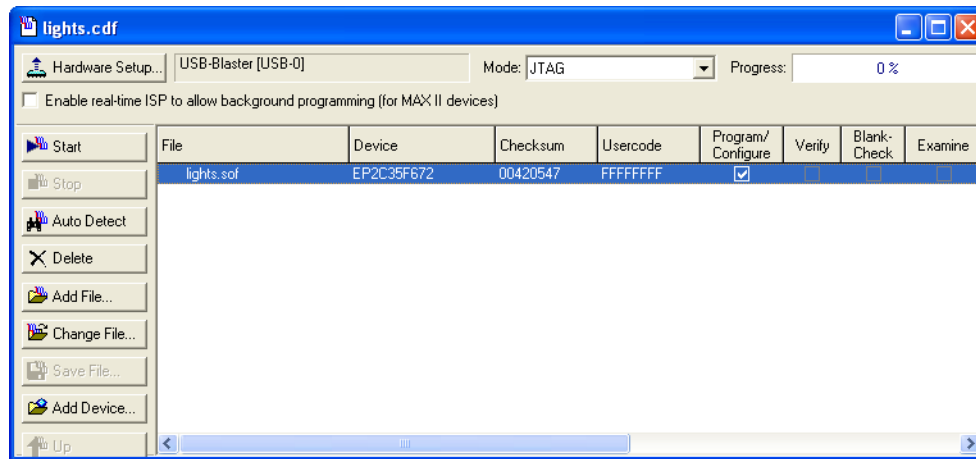

Figure 18. The Programmer window.
2. Select Tools > Programmer to reach the window in Figure 18.
6. At this point the window settings should appear as indicated in Figure 18. Press Start to configure the FPGA.